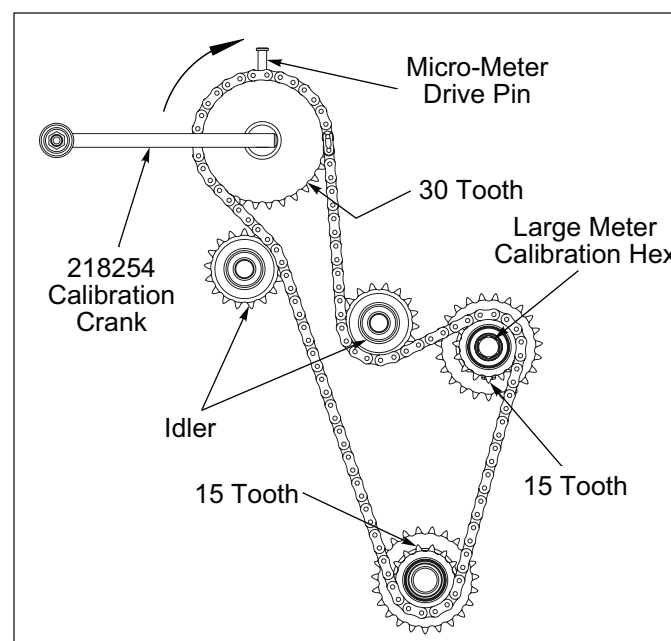

Figure 3-17: Micro-Meter Box Calibration
4. Remove Micro-Meter Drive Pin. **See Figure 3-17.**
5. Turn Transmission Micro-Meter Shaft Calibration Hex 258 revolutions Clockwise (CW) with provided Crank, 43 turns may be used if results are adjusted as stated in Step 6.